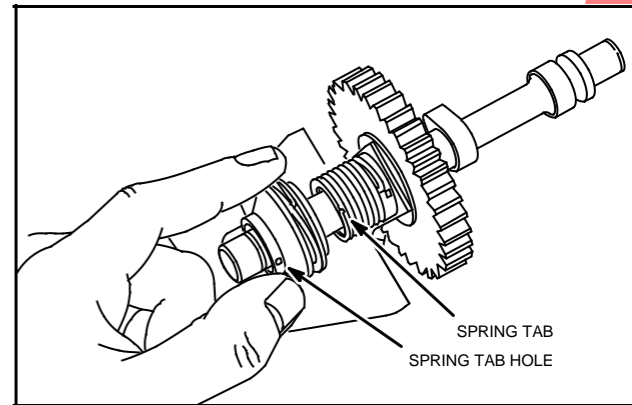

Fig. 162 - INSTALL CLUTCH SLEEVE
3. Depress spring tab, if required. When clutch sleeve is in place, spring tab should be in sleeve hole, Fig. 162.